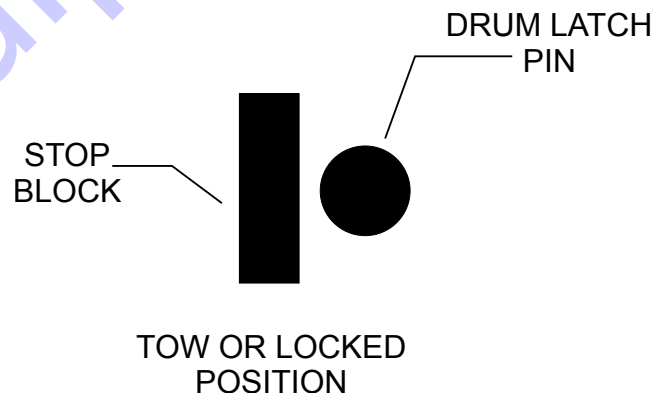

Figure 2. Drum Latch Pin (Tow or Locked Position)
**DO NOT** tow the mixer unless the mixing drum is completely empty. **ALWAYS** make sure the drum latch pin is fully engaged to the right (Figure 2) of the drum stop block. This will keep the drum from rotating.